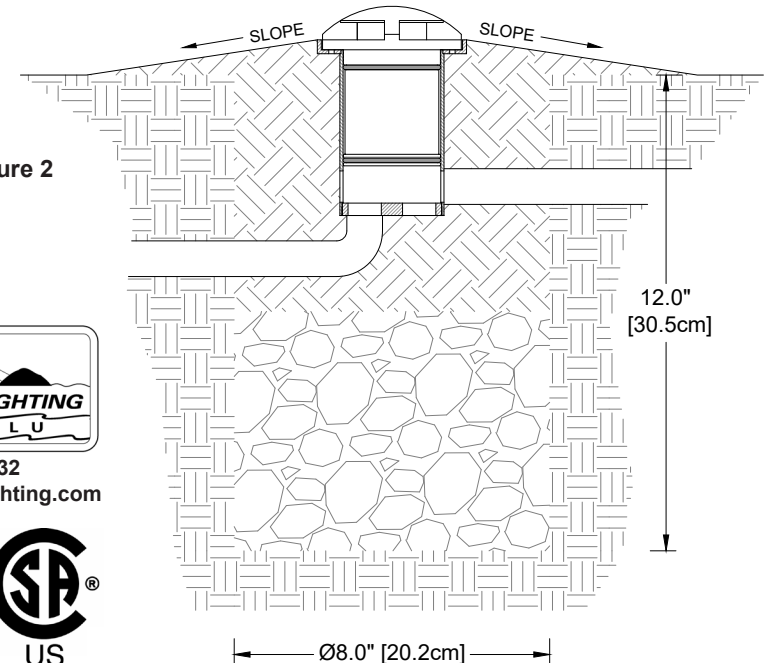

Figure 2
1. Dig an 8" diameter x 12" deep (20 x 30cm) hole at desired fixture location. Fill bottom half of hole with pea gravel (by others) for drainage (Figure 2).
6. Refill hole with soil. Make sure the fixture sits slightly above grade and the soil slopes away from the fixture (Figure 2).